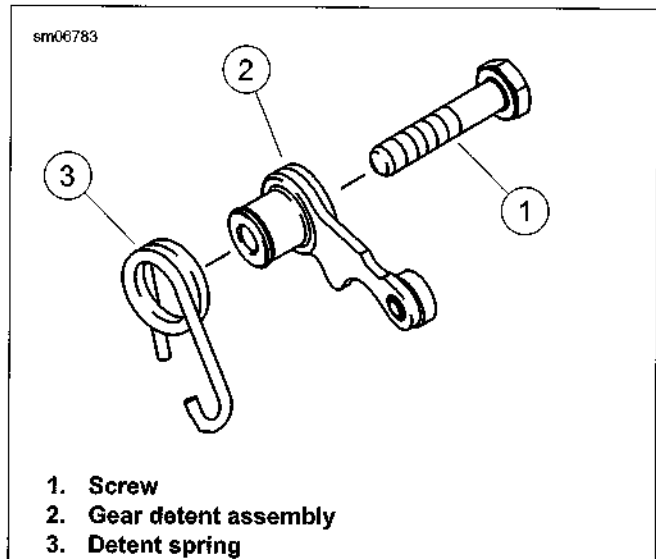

Figure 5-31. Gear Detent Assembly
16. See Figure 5-31. Remove screw (1), gear detent assembly (2) and detent spring (3) from inside transmission cavity of right crankcase.